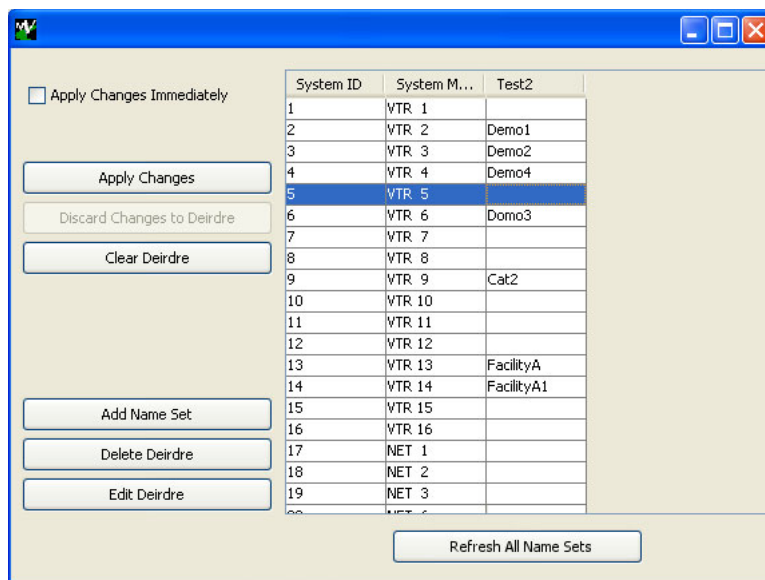

Figure 17-4. Name Sets Window
- 2 Right-click on the system controller you are currently working with and from the pop-up menu select 'Edit Name Sets'. The 'Name Sets' window appears, as shown in Figure 17-4. All name sets currently defined in the system are listed.